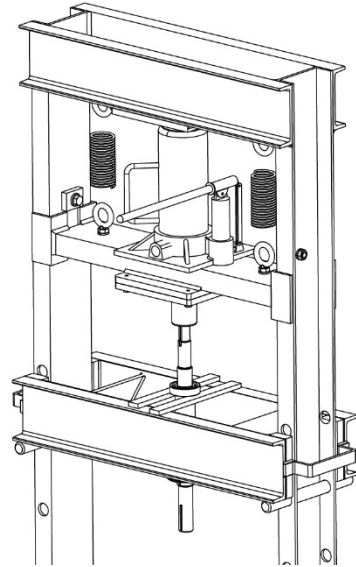

Figure 11-2: Removing bearings (16, 18) from shaft (06)
2. Unthread bearing cover bolts (37A) and remove. Pull off the bearing cover (37), be careful not to damage the lip seal (49). If lip seal (49) is damaged or worn replace upon reassembly.
3. Push out the lip seal (49) from the bearing cover (37) if replacing.
4. Wipe out as much grease with a clean shop rag. Unbend the locking tab from the bearing lock washer (22A) to allow the bearing locknut (22) to rotate. With a spanner wrench unthread the bearing locknut (22) and remove both the bearing locknut (22) and bearing locknut washer (22A).
5. With a soft rubber mallet or dead blow lightly tap the end of the shaft (06) on the impeller (02) side to remove the shaft (06) and bearings (16, 18) from the frame (19). Take care as not to damage the inboard lip seal (51).
6. Press out the inboard lip seal (51) if damaged or worn if replacing.
7. Replace bearings (16, 18) if damaged or worn. To remove the bearings (16, 18) use a hydraulic press on the end of the shaft (06) while supporting the bearing (16, 18) on the inner raceway. See Figure 11-2 for setup.